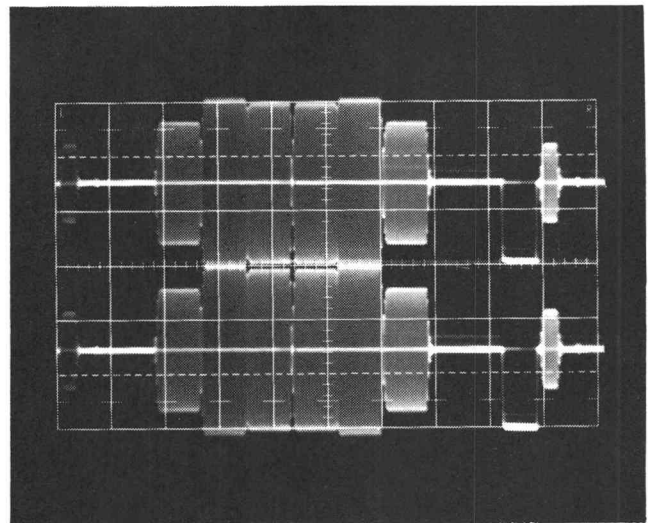

Fig. 4-18. Chopped waveform display.
a. Check Total Amplitudes. Connect the rear-panel FULL FIELD TEST signal to the test oscilloscope. Connect the chopper to the test oscilloscope. Display the chopped signal (see the NOTE following item 6 of the Test Equipment Used list and Fig. 4-18). Leave P3190 (Y) disconnected.